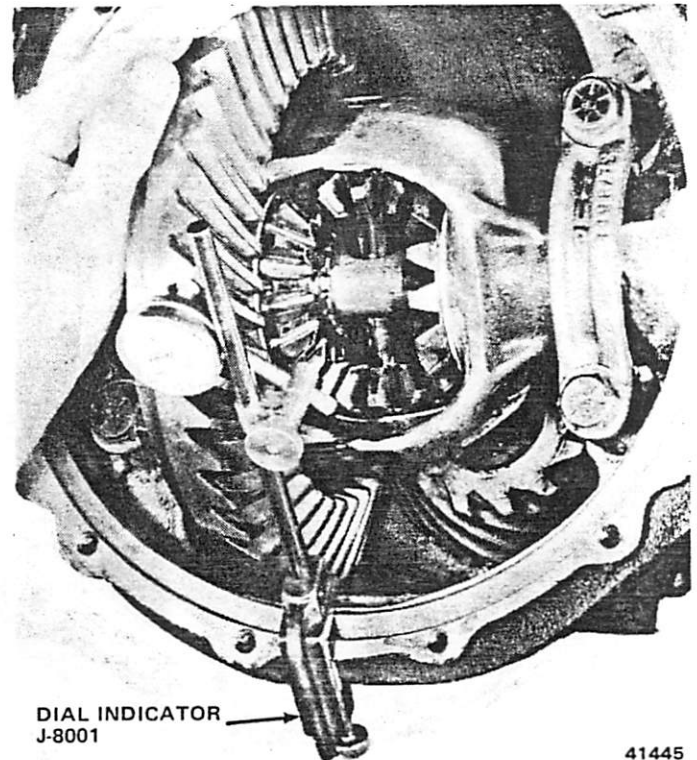

Fig. 2F-43 Checking Backlash
(1) Position shims previously selected to remove differential bearing sideplay on bearing cups and install differential assembly in axle housing.
(2) Install bearing cap bolts and tighten bolts to 87 foot-pounds (118 N•m) torque.
(3) Attach dial indicator to housing. Position indicator so indicator stylus contacts drive side of a ring gear tooth and at right angle to tooth (fig. 2F-43).
(4) Move ring gear back and forth and note movement registered on dial indicator. Ring gear backlash should be 0.005 to 0.009 inch (0.12 to 0.22 mm), with 0.008 inch (0.20 mm) desired.
(5) Adjust backlash as follows: to increase backlash, install thinner shim on ring gear side and thicker shim on opposite side. To decrease backlash, reverse procedure, however, do not change total thickness of shims. **Example:** Sideplay was removed using 0.090 inch (2.28 mm) shims on each side totaling 0.180 inch (4.57 mm).